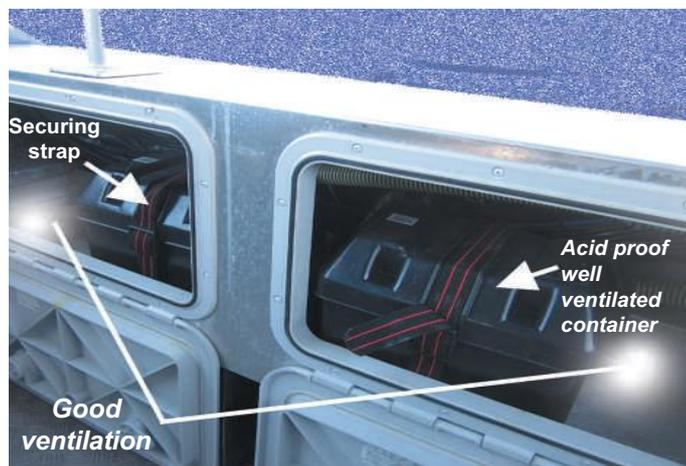

Figure 15.2 Battery stowage safety precautions
A parallel connection is made by linking the positive and negative poles. This leaves the system voltage unchanged but increases its storage capacity. Generally an isolation switch is fitted and the batteries can be switched between each other, This system is common for boats with large motors (Figure 15.2). This will only work as a backup if both batteries are properly charged.
- Make sure the battery is in an acid proof container, securely tied down to stop it coming loose during your trip and the battery box is ventilated to stop the build up of flammable gases as shown in Figure 15.2.